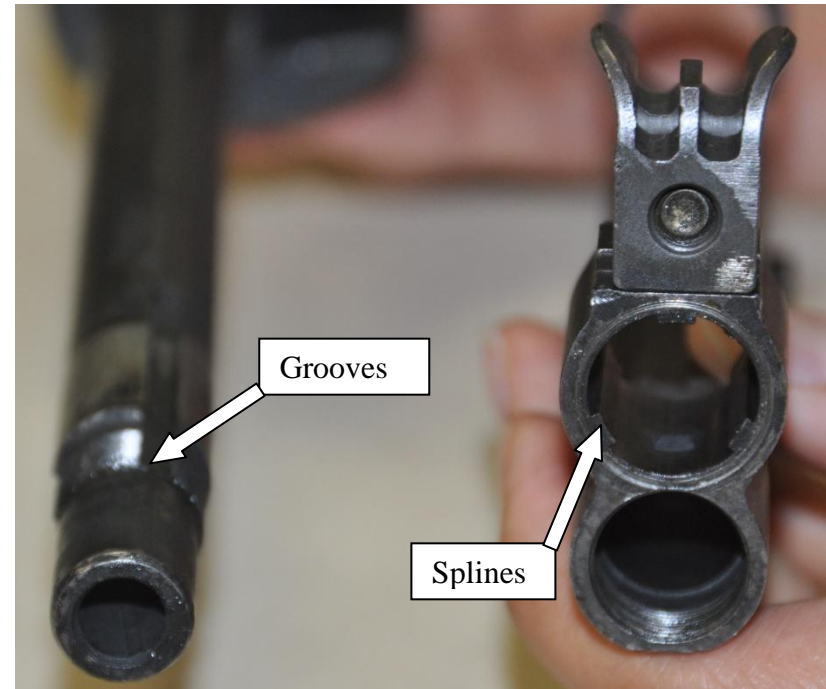

Figure 30. Splines & grooves
- 2) Place the gas cylinder over the barrel, making sure that the splines are aligned with their grooves (fig 30).